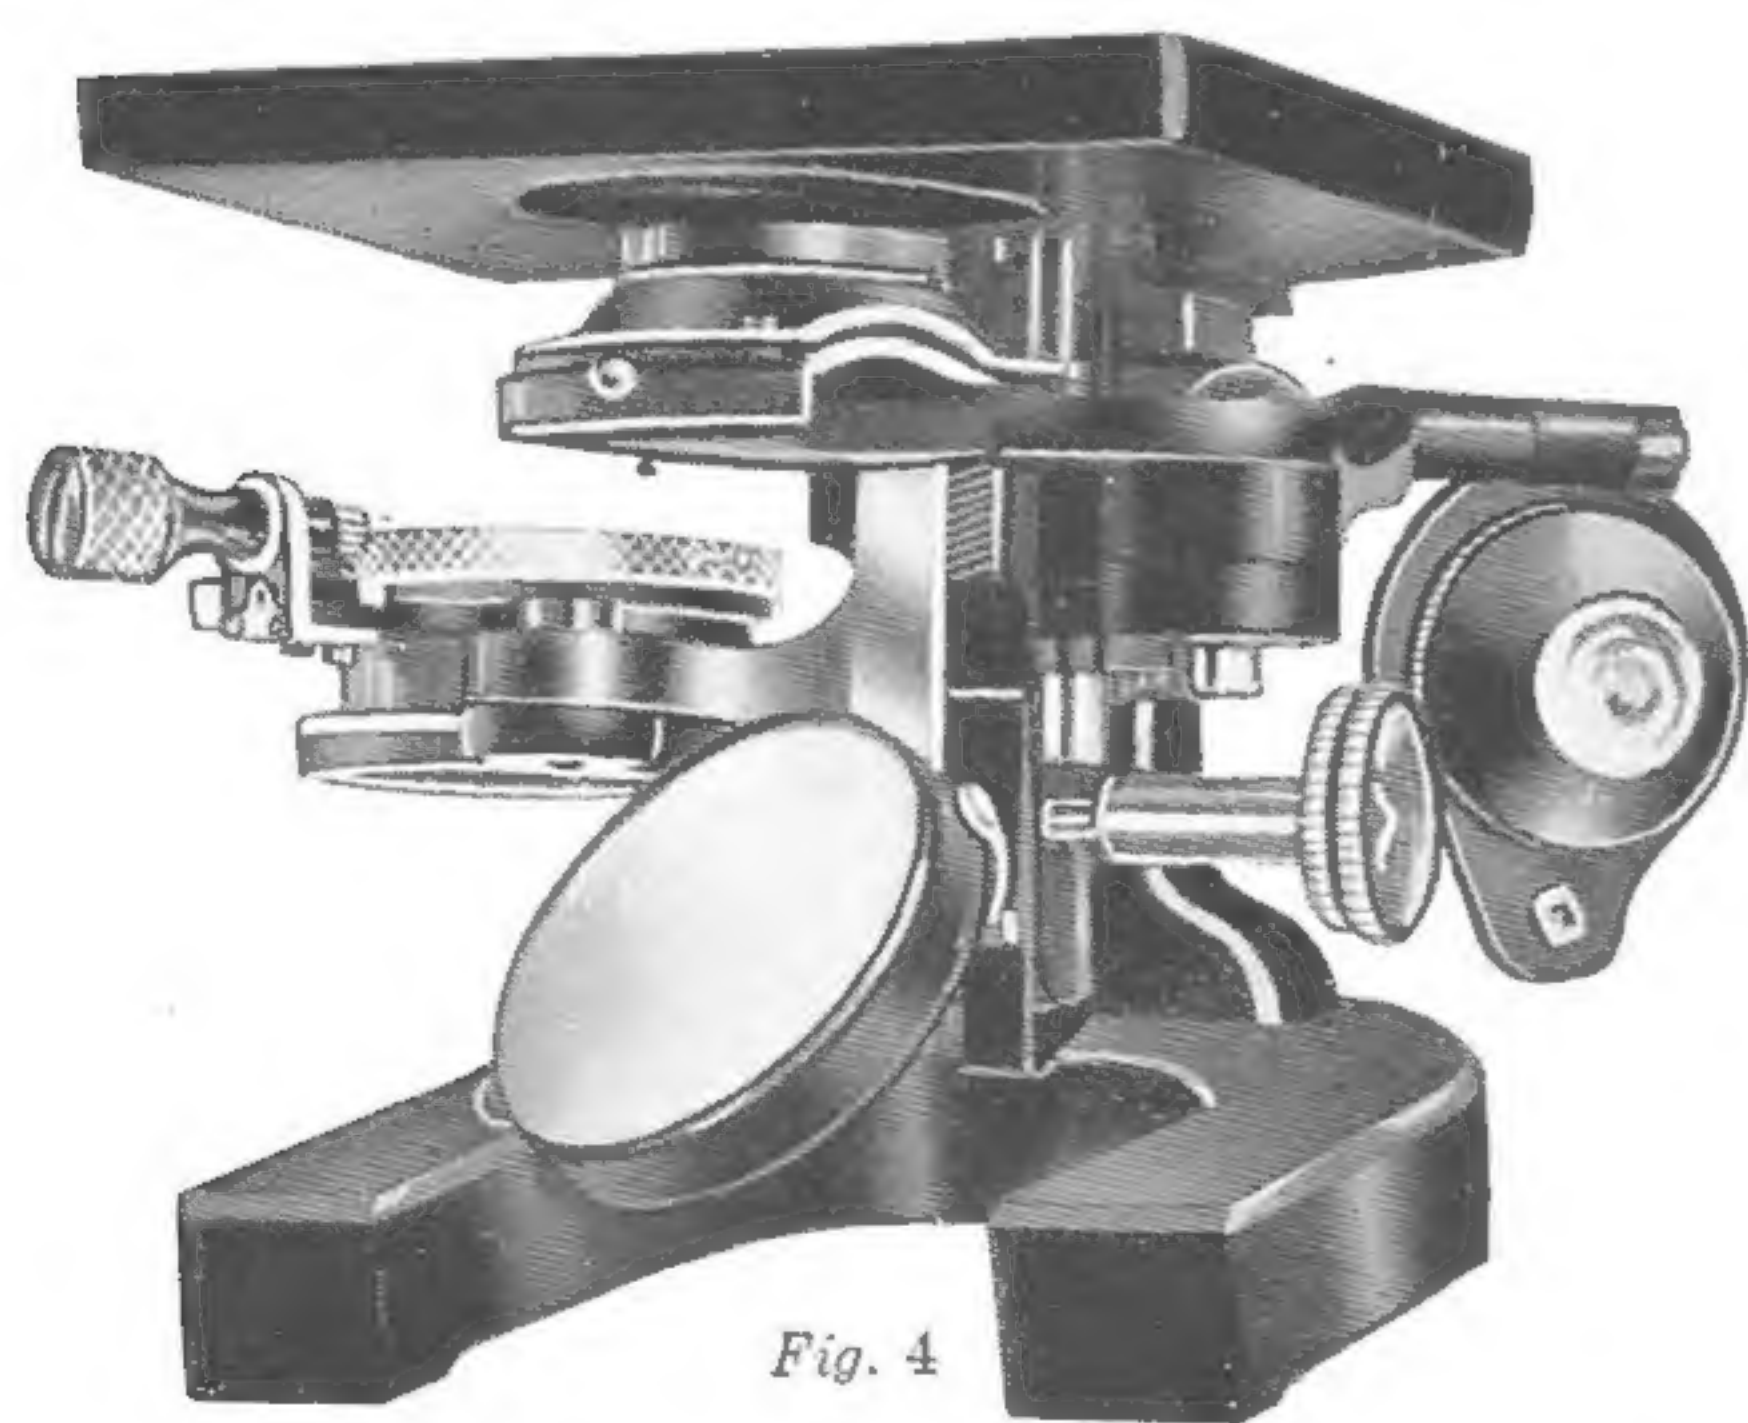

Fig. 4
**The Complete Rack-and-Pinion Substage** is shown in Fig. 4. The whole mechanism is moved up and down on its bearing by means of a rack and pinion.